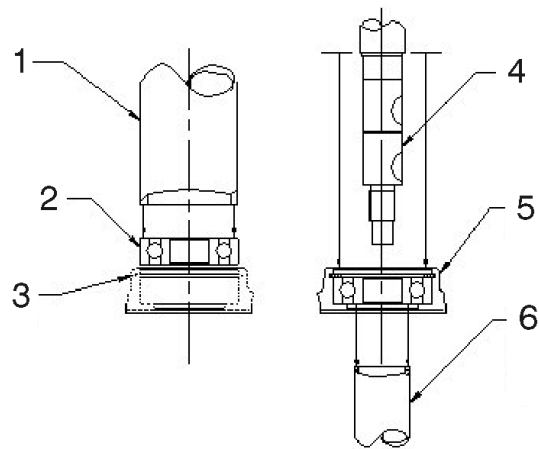

Figure 3-26. Drive Motor Shaft Bearing
2. After the motor has been disassembled, it is recommended that new bearings be installed because bearings may have been damaged during removal. Although the bearings may appear and feel good, the bearing races could be "brinelled" (races or balls deformed) and may exhibit noise and vibration problems or fail within a relatively short period of service. Press a new bearing into the commutator end head, pressing on the outer race only. See Figure 3-26.. Replace the Retaining Ring (7) in the retaining ring groove.
3. Press the Armature (3) commutator end into the commutator end head and bearing assembly, carefully supporting the inner-race of the bearing. See Figure 3-26.
4. Carefully release the Brush Springs (4) allowing the Brushes (5) to contact the commutator. Make sure brush shunts do not interfere with spring movement.
5. Assemble the commutator end head to the Frame & Field Assembly (2) and tighten the screws to 120 - 140 in-lb (13.6 - 15.8 Nm). Make sure to align the field connection with the notch in the commutator end head. Seal wires where they exit from commutator end head with the Grommet (10).
6. Place the Gasket Seal (12) in the bottom of the notch in the commutator end head. Align wires from the Brake Assembly (11) into the notch in the commutator end head. Secure brake assembly to commutator end head using three bolts.
7. Install Wire Harness (1) to motor by connecting the brake connectors and securing the armature terminals to the terminal studs. Crimp the field connection (red/orange to orange and blue to blue) together and heat shrink. Motor terminals must be assembled as shown in **Always secure the bottom nut with a wrench as you tighten the top nut.** Torque top nut to 90 - 110 in-lb (10.2 - 12.4 Nm).